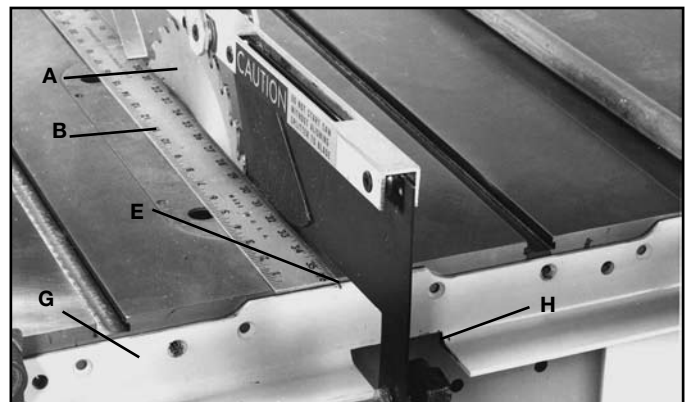

FIG. 17
5. Clamp rear rail (G) Fig. 17, to back of saw table using bar clamps making certain notch (E) in rail is aligned with saw blade (A) as shown, using straight edge (B). Make sure the two cutouts in the rail are below the bottom of the miter slots in the saw table.
7. After fastening the rear rail to the saw table, tilt the saw blade to make certain there is no interference between the saw guard and the rear rail. If there is, it will be necessary to enlarge the cut-out (H) Fig. 17, in the rear rail.